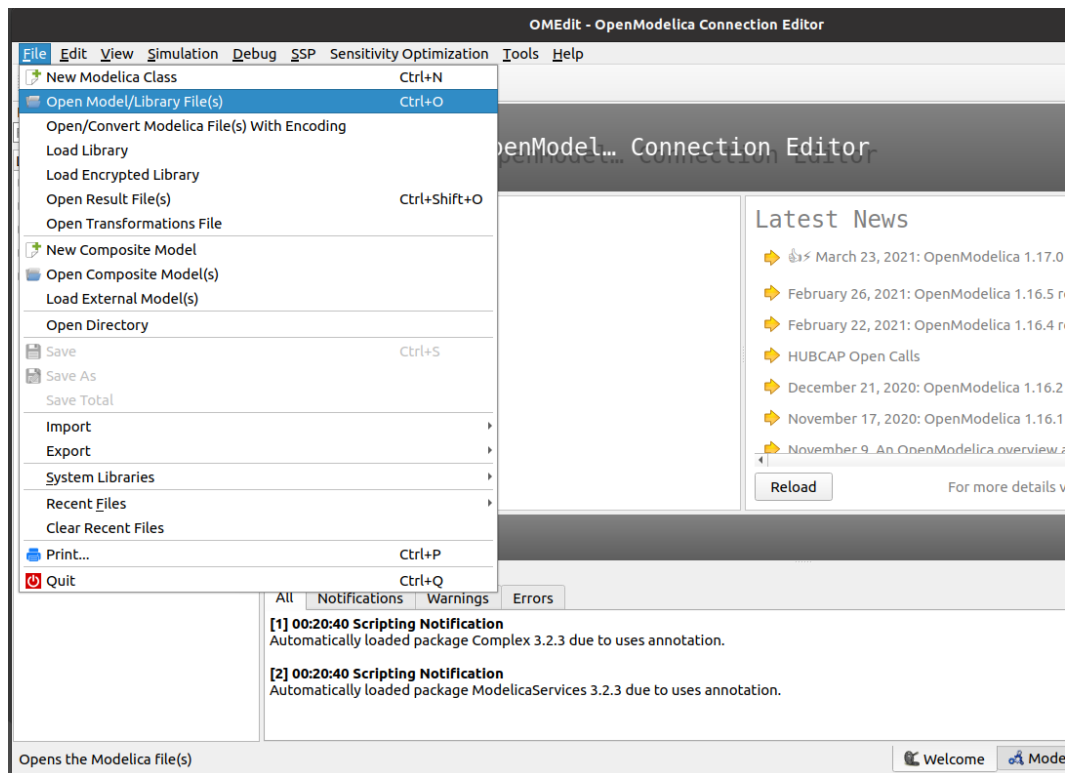

Figure 3.9: Opening a model in OMEdit
The files or models in OpenModelica have ‘.mo’ extensions. Though there are several ways to simulate or run an OpenModelica model, we will execute the models by utilizing the user interface of OMEdit. To open a model in OMEdit, go to the menu bar of OMEdit and click on File -> Open Model/Library File(s), as shown in Fig. 3.9. Then, select the desired model (with ‘.mo’ extension) and click Open. The names of tabs in this book have been mentioned according to OpenModelica 1.17.0. You might observe a bit of difference in these names while working with other versions of OpenModelica.
2. After launching, we have to load OpenModelica-Arduino toolbox. To do so, go to the menu bar of OMEdit. Click on **File** and then click on the **Open Model/Library File(s)** option as shown in Fig. 3.9.